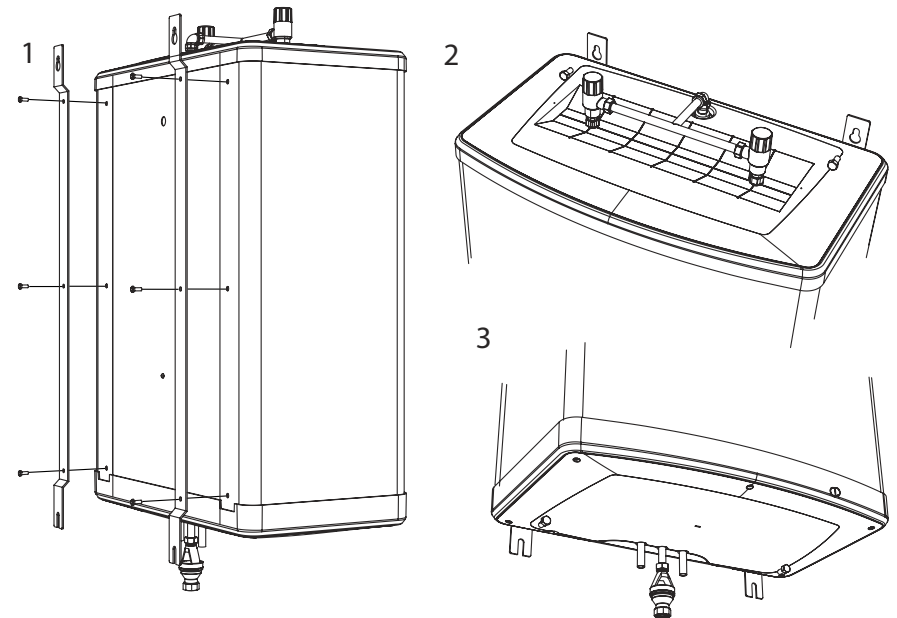

Figure 2: Fixture of brackets and wall mounting
- 3.1 Fit the heater wall brackets to the rear of the unit using the bolts provided (see Figure 2, step 1 below).
- 3.3 Fix the top two fixings first (Figure 2 step 2) followed by the bottom two fixings (Figure 2, step 3).